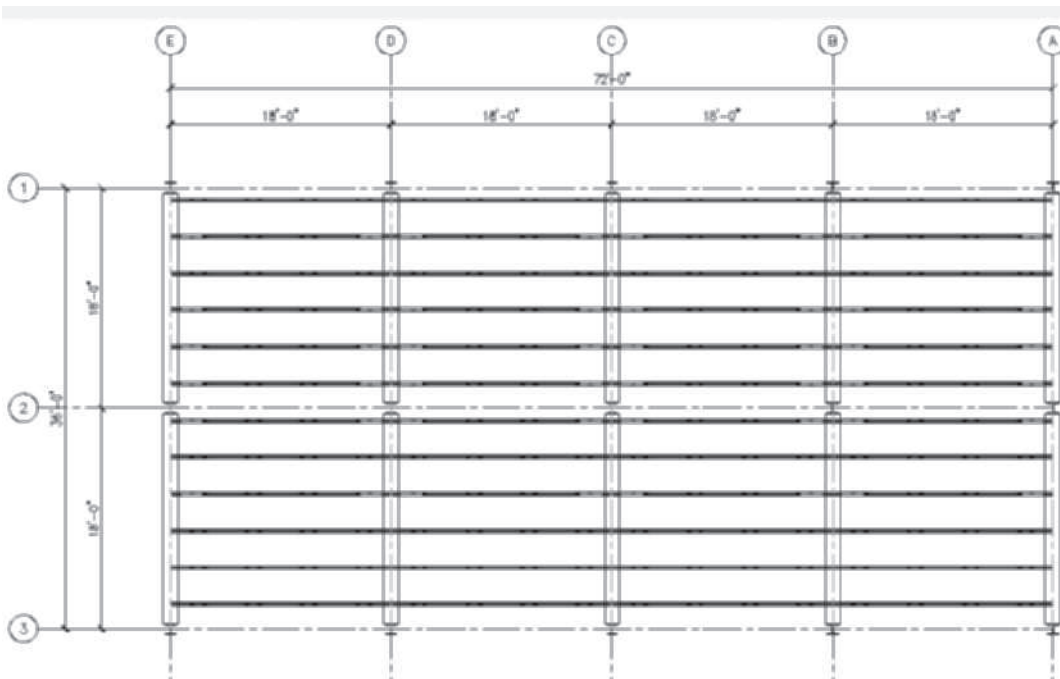

FIGURE 13.42 Column grid dimensioned
8. Select the AEC Dimension placed in step 6, right-click, and choose Add Selected from the General panel. Add the vertical dimension as shown in Figure 13.42.